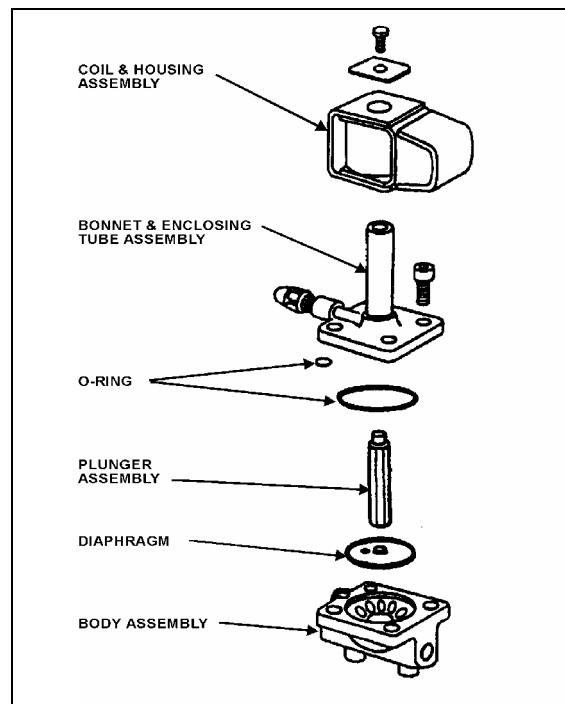

FIGURE 29: REFRIGERANT SOLENOID VALVE 22044
3. Remove the four socket head screws which hold the body and bonnet together (Fig. 29).